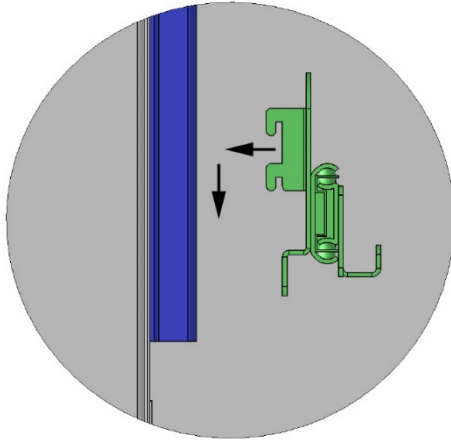
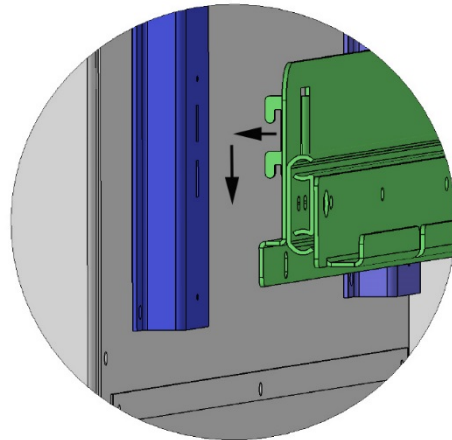

Figure 10: Sliding Shelf Mounting Bracket Installation
Figure 11: Sliding Shelf Mounting Bracket Installation
1. Insert the sliding bracket tabs into the mounting slots on the shelf standard rails. See Figure 10 and Figure 11.